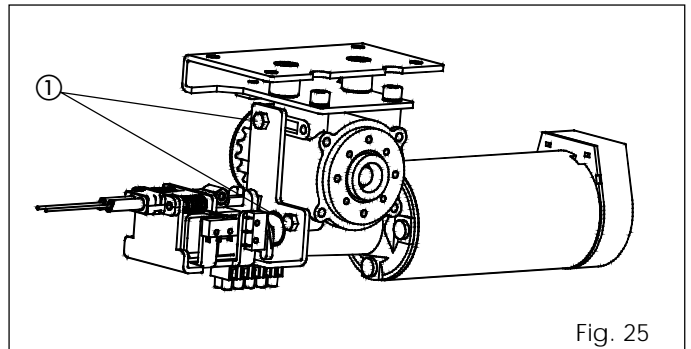

Fig. 25
- Secure the motor lock with the two supplied bolts as shown in fig. 25 ref. ①.